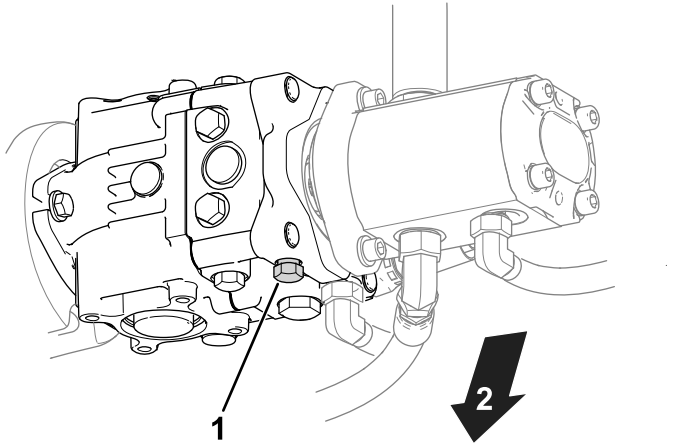

Figure 27
1. Locate the bypass valve on the pump (Figure 27).